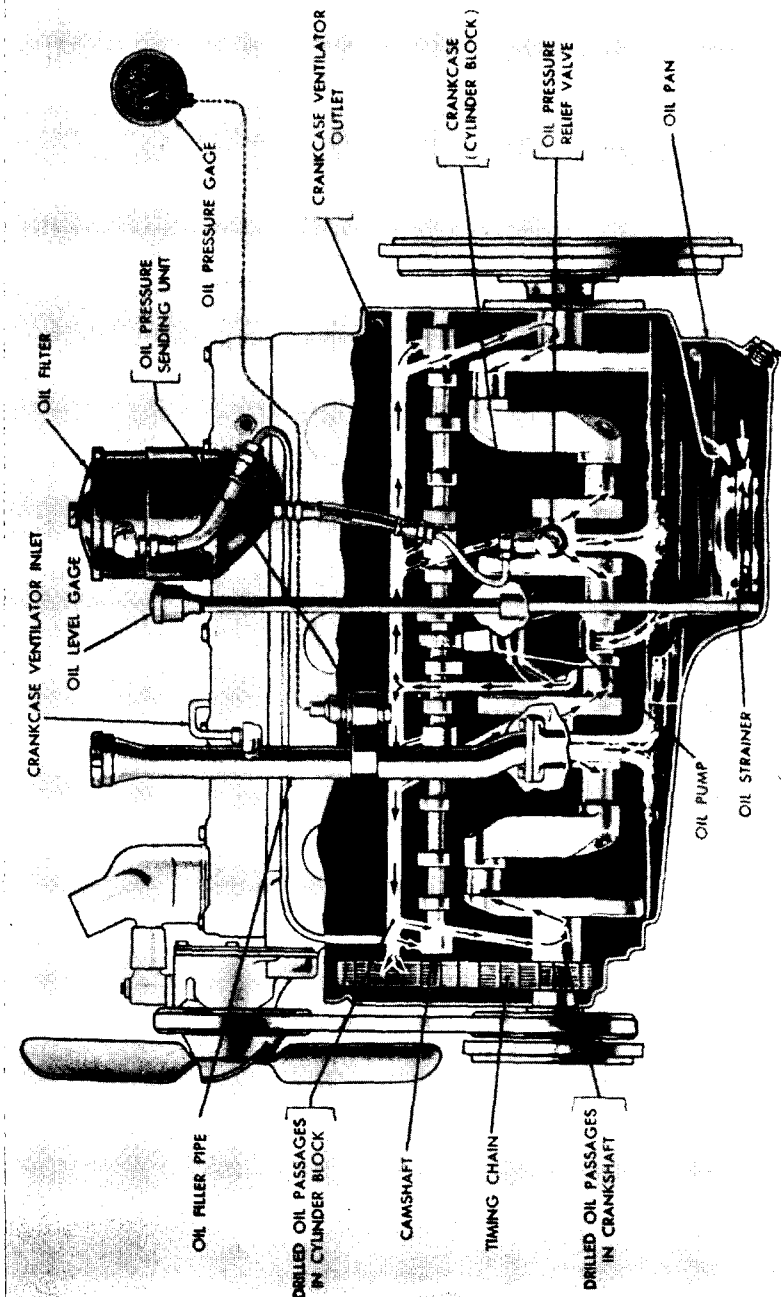

Figure 7. Engine oiling system.
a. Engine Oiling System (fig. 7). The engine is lubricated by oil drawn from the oil pan by a rotor type oil pump and forced under pressure through drilled passages in the cylinder block to the crankshaft and camshaft bearings. Passages, drilled in the crankshaft, allow oil to be forced through the crankshaft bearings and to the connecting rod bearings. A limited amount of oil is forced from the camshaft front bearing to the timing chain case to lubricate the timing chain and sprockets. Cylinder walls, pistons, piston pins, and valve tappets are lubricated by oil spray from the connecting rod bearings. The camshaft thrust plate is lubricated through an oil passage in the camshaft.
b. Oil Filter (fig. 7). The engine is provided with an oil filter which has a replaceable element. This element should be replaced periodically, as prescribed, or more often, if there is dirt or sludge on the filtering element or in the engine oil.
c. Oil Pressure Gage (fig. 7). An oil pressure gage mounted on the instrument panel and calibrated in pounds per square inch, is provided to indicate whether the lubrication system is operating properly. The gage should register 15 psi or higher at idling speeds, and approximately 50 psi at higher speeds. The gage operates by electricity. The sending unit is mounted on the left side of the cylinder block.
d. Oil Pressure Relief Valve (fig. 7). Engine oil pressure is controlled by a relief valve mounted on the left side of the engine below the starter and consists of a plunger type valve, spring, gasket, and plug. The relief valve spring controls the maximum oil pressure to 50 psi and circulation through the oil filter starts at approximately 46 psi if the temperature of the oil is above 135° F. The design of the oil relief valve shuts off circulation to the oil filter at low pressure and permits circulation through the filter slightly before the valve
e. Oil Strainer (fig. 7). A floating type oil strainer, located at the lowest point in the oil pan, is attached to the oil pump suction pipe. The strainer is pivoted so that it is free to float near the top of the oil level. Due to the pivoting action of the strainer, clean oil is drawn from the top of the oil level, while sediment or other foreign particles settle to the bottom of the oil pan.
a. Oil Pan (fig. 7). The oil pan is attached to the bottom flange of the cylinder block by cap screws. Gaskets are used at the front and rear of the oil pan and between the mating surfaces of the oil pan and the cylinder block. This prevents oil leakage and also possible entry of dirt or foreign matter into the crankcase.
b. Oil Level Gage (fig. 7). A bayonet type oil level gage is located on the left side of the cylinder block and provides a means of determining the amount of oil in the crankcase. The oil level should be checked at frequent intervals. In order to obtain a proper reading, the gage should be withdrawn, wiped off, reinserted carefully, and again withdrawn. A correct reading cannot be obtained if the gage is withdrawn while the engine is running, nor immediately after the engine is stopped, as sufficient time must be allowed for the oil in the various parts of the engine to drain down into the oil pan.
c. Capacity of Oil Pan. The capacity of the engine lubricating system is 5 quarts (refill) or 6 quarts if the oil filter has been drained or replaced. The oil pan is filled through the oil filler pipe (fig. 7) located at the left front side of the cylinder block.
d. Crankcase Ventilator. A crankcase ventilating system is provided to remove harmful fumes from the crankcase and to prevent condensation of the vapors resulting from combustion. Fresh air for the ventilating system enters the crankcase through a tube attached to the carburetor air cleaner elbow and extending to the oil filler pipe. Another tube, attached to the crankcase ventilator outlet (fig. 7) and extending to the intake manifold (at which point a one way check valve is located) completes the ventilation circuit. The controlled suction from the intake manifold causes the air to circulate through the crankcase from the air cleaner and thus remove the undesirable vapors.